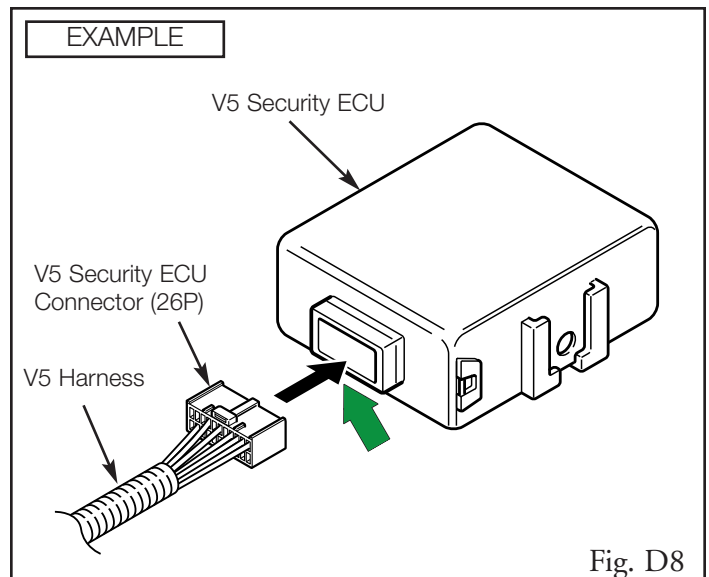

Fig. D8
8. Plug in the V5 harness' dark gray 26P connector to the V5 security ECU. (Fig. D8)